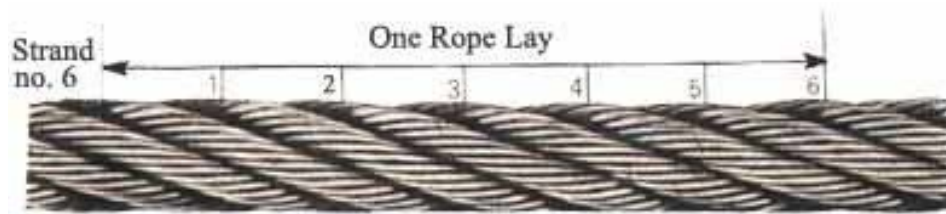

Figure 1. CK Winch Cable.
Winch Assembly and Cable: Follow the Shelter Expansion or Wing Closure procedure as applicable to lower or raise each wing. The winch should provide a smooth and even cranking operation. If a rough, intermittent, erratic or binding operation occurs, a determination of whether the fault is in the cable or winch assembly should be made. Open the bottom winch assembly access panel located inside the CK and to the left of the personnel access door. Check that the winch cable is evenly wound on the winch cable reel. Check the winch cable at each end of the side wings where the cable is visible. Look for kinks or broken wires on the cable. A wire is the smallest individual metal cord that, when combined with a specific number of other wires, constitutes a strand (see Figure 1).
- a) There are more than three randomly distributed broken wires in one rope lay (see Figure 1). There are three broken wires in one strand in one 10-foot length.